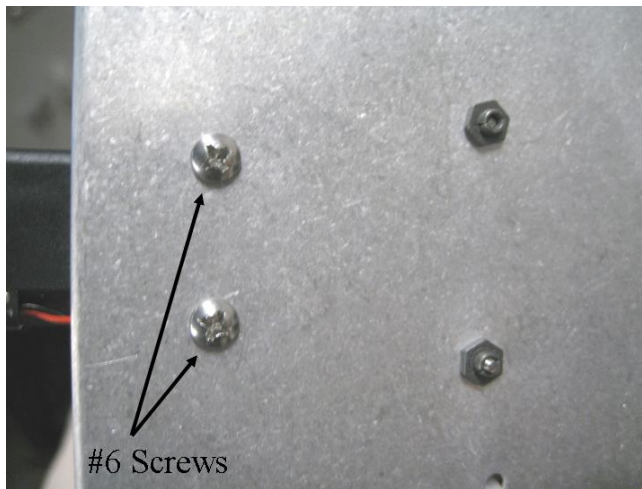

FIGURE H-9. Self-tapping screws attaching pump to metal box
9. Gently lift the pump assembly from foam, leaving the tubes attached. Turn it over and remove the two self-tapping #6 screws that attach the pump to the metal box, as shown in FIGURE H-9.
2. Reattach the pump to metal box with two self-tapping #6 screws on the back of the pump module electronics plate (FIGURE H-9).